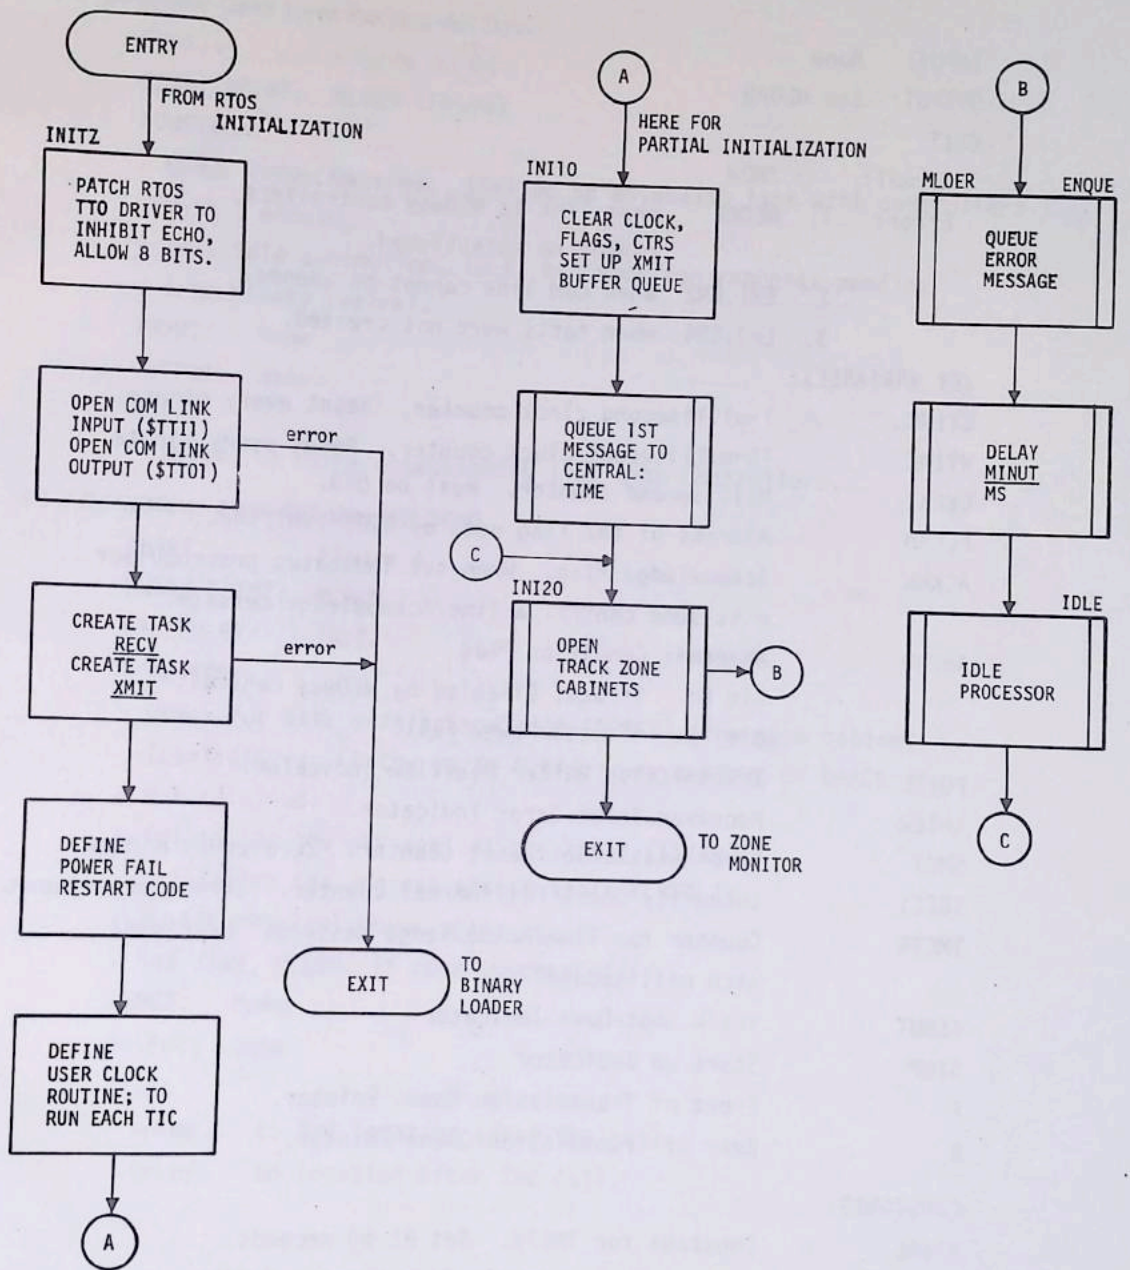

FIGURE 3
The following pages contain a detailed description of the preprocessor monitor program in terms of the routines charted in figure 2. The descriptions that follow are in outline form containing the name of the routine, its function, inputs, outputs, and exits from the routine. The outlines are supported by flow charts (figures 3 through 14).
CHART: Figure 3
CHART: Figure 3, (B)